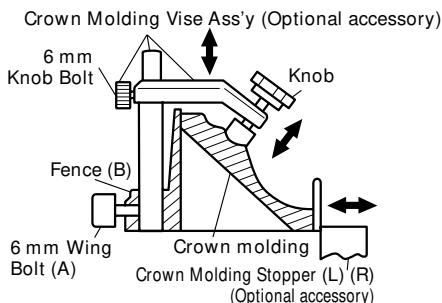

Fig. 21
- (2) The crown molding vise (B) (Optional accessory) can be mounted on either the left fence (Fence (B)) or the right fence (Fence (A)). It can unite with the slope of the crown molding and vise can be pressed down. Then turn the upper knob, as necessary, to securely attach the crown molding in position. To raise or lower the vise assembly, first loosen the 6 mm wing bolt. After adjusting the height, firmly tighten the 6 mm wing bolt; then turn the upper knob, as necessary, to securely attach the crown molding in position (See **Fig 21**).
Position crown molding with its WALL CONTACT EDGE against the guide fence and its CEILING CONTACT EDGE against the Crown molding Stoppers as shown in **Fig. 21**. Adjust the Crown molding Stoppers according to the size of the crown molding. Tighten the 6 mm wing bolt to secure the Crown molding Stoppers.